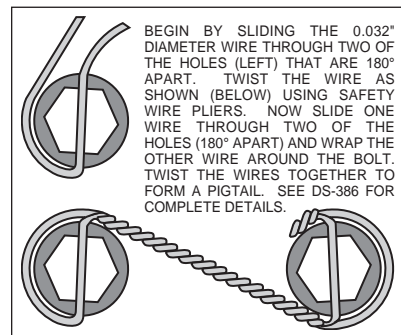
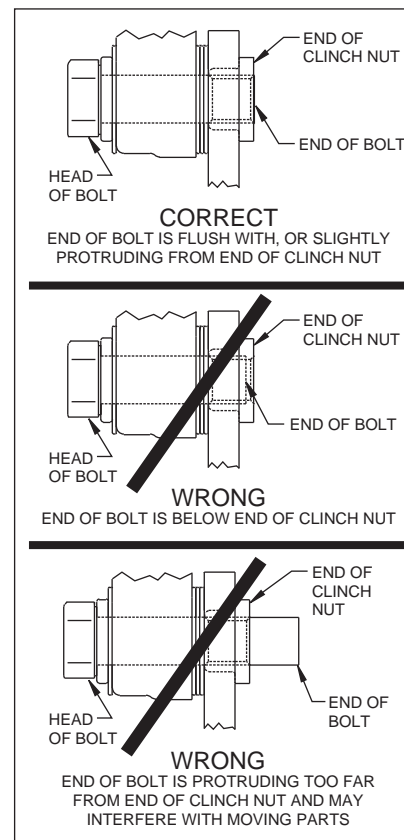

Figure 5. Safety Wire Diagram
Figure 6.
- With the slot pointing upward and the mounting ears pointing towards the rear of the vehicle, install the caliper mounting bracket (1) to the axle housing flange using the stock Original Equipment Manufacturer (OEM) bolts and nuts. Stock OEM hex nuts that retain the bracket (1) should be on the wheel side of the bracket. Apply red *Loctite*® 271 to the stock OEM bolt threads and torque to OEM specifications. **NOTE:** Some brackets act as the bearing retainer, while others help locate the bearing in the axle housing flange. Make sure the heads of the caliper mounting bracket insert nuts are FACING OUTWARD TOWARDS THE WHEEL.
- The rotor (3) has two sides. A flat side and an inset side. Bolt hat (2) to flat side of rotor (3) using bolts (5). Using an alternating sequence, apply red *Loctite*® 271 to the threads and torque bolts to 25 ft-lb. For an added measure of security, the bolts may be safety wired using standard 0.032 inch diameter stainless steel safety wire as shown in Figure 5. Please refer to Wilwood's data sheet DS-386 (available at [www.wilwood.com/Pdf/DataSheets/ds386.pdf](http://www.wilwood.com/Pdf/DataSheets/ds386.pdf)) for complete safety wire installation instructions.
- Align the correct hole pattern in the hat (2) with the stud pattern on the axle flange. **NOTE:** Some OEM and after market axles come with stud sizes larger than 0.50" diameter. Verify stud size and have a qualified machine shop drill the hats to the correct size. Slide the hat/rotor assembly (2 and 3) over the wheel studs and against the axle flange face.
- NOTE:** Please reference the caution statement at the beginning of the assembly instructions. Mount the caliper (6) over the rotor (3) and onto the caliper mounting bracket (1) using the washers (7) and mounting bolts (8). View the rotor through the top opening of the caliper. The rotor should be aligned in the center of the caliper. If not, adjust the caliper by using 0.032 inch shims (9) by placing them between the caliper mounting bracket (1) and the caliper (6). Add as many shim washers (9) as necessary to achieve the correct alignment. **NOTE:** The end of the bolt must be flush with or slightly protruding from the head of the clinch nut. See Figure 6. Place spare shims (9) between washer and caliper mounting ear to achieve the proper mounting fastener configuration. Always use the same amount of shims on both the top and bottom caliper mounting bolts (8). Apply red *Loctite*® 271 to the mounting bolt threads (8), torque to 40 ft-lb. Caliper mount bolts may be safety wired for additional security.
- Position the Wilwood disc brake pads (10) into the caliper (6) and fasten with cotter pin (4). Steel backing plate side of brake pad should face the caliper pistons.